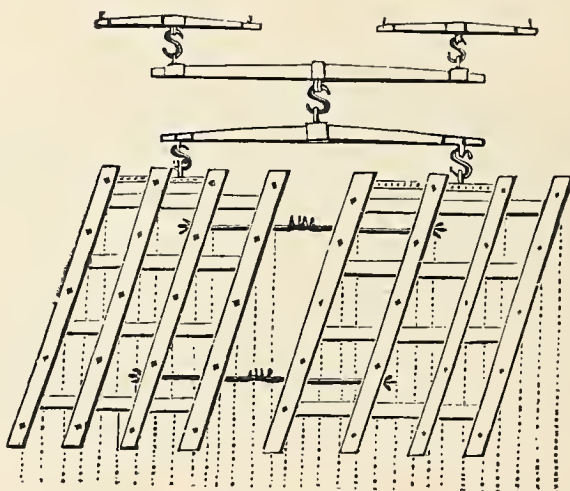

Fig. 328. — Scotch Harrow.
*The Scotch Harrow*, represented by *Fig. 328*, is a modification of the HINGE HARROW. It is made with thirty-two or forty teeth, inserted in such manner that